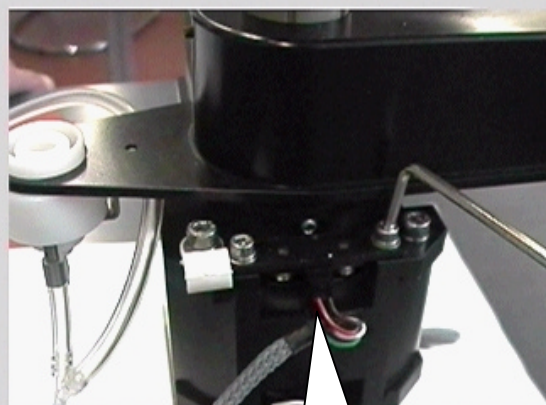

Fig. 3
6. Remove the fastening screws from the optic sensor support, unplug the J11 connector from the Sampling Interface assy and take out the entire assembly (Fig.3).